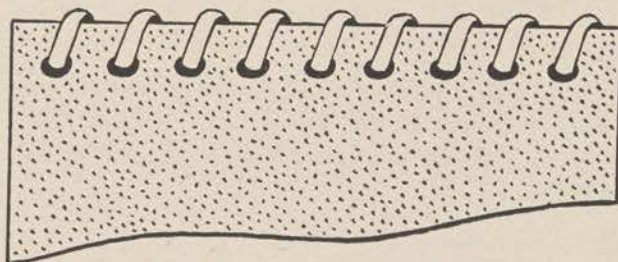

Figure 36.
58. Over and Over Stitch (fig. 36)